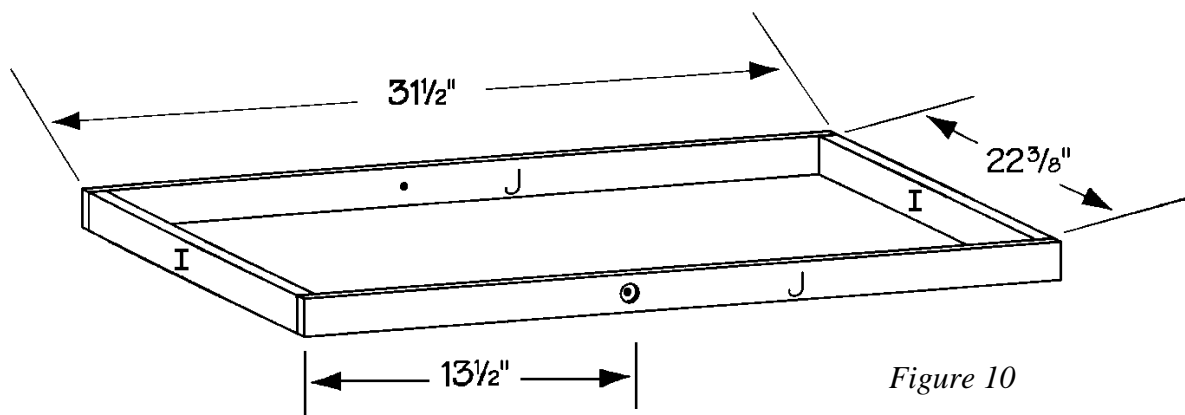

Figure 10
- Cut two short back supports (I) from 1 x 3 pine, each measuring 22-3/8" long.
- Cut two long back supports (J) from 1 x 2 pine, each measuring 31-1/2" long.
- Measure 13-1/2" from one end of each long back support (J) and center a mark on the wide face. Drill a 1 3/4" countersink 1/4" deep. Then drill a 3/8" hole through the back support (J), as shown in *Figure 10*.
- Place the two long back supports (J) on a flat surface, parallel to each other and $22\frac{3}{8}$ " apart. Fit the two short back supports (I) between the two long back supports (K), as shown in *Figure 10*. Nail through the long back supports (J) into the ends of the short back supports (I), using two $1\frac{1}{2}$ "-long nails on each joint.
- Cut eight back slats (K) from 1 x 4 pine, each measuring $23\frac{7}{8}$ " long.
- Fit the back slats (K) over the assembled frame, spacing the $\frac{1}{2}$ " apart, in the same manner that you used to attach the 11 slats (G). Nail through the end of the back slats (K) into the edges of the two long inner supports. Use two $1\frac{1}{2}$ "-long nails on each joint.